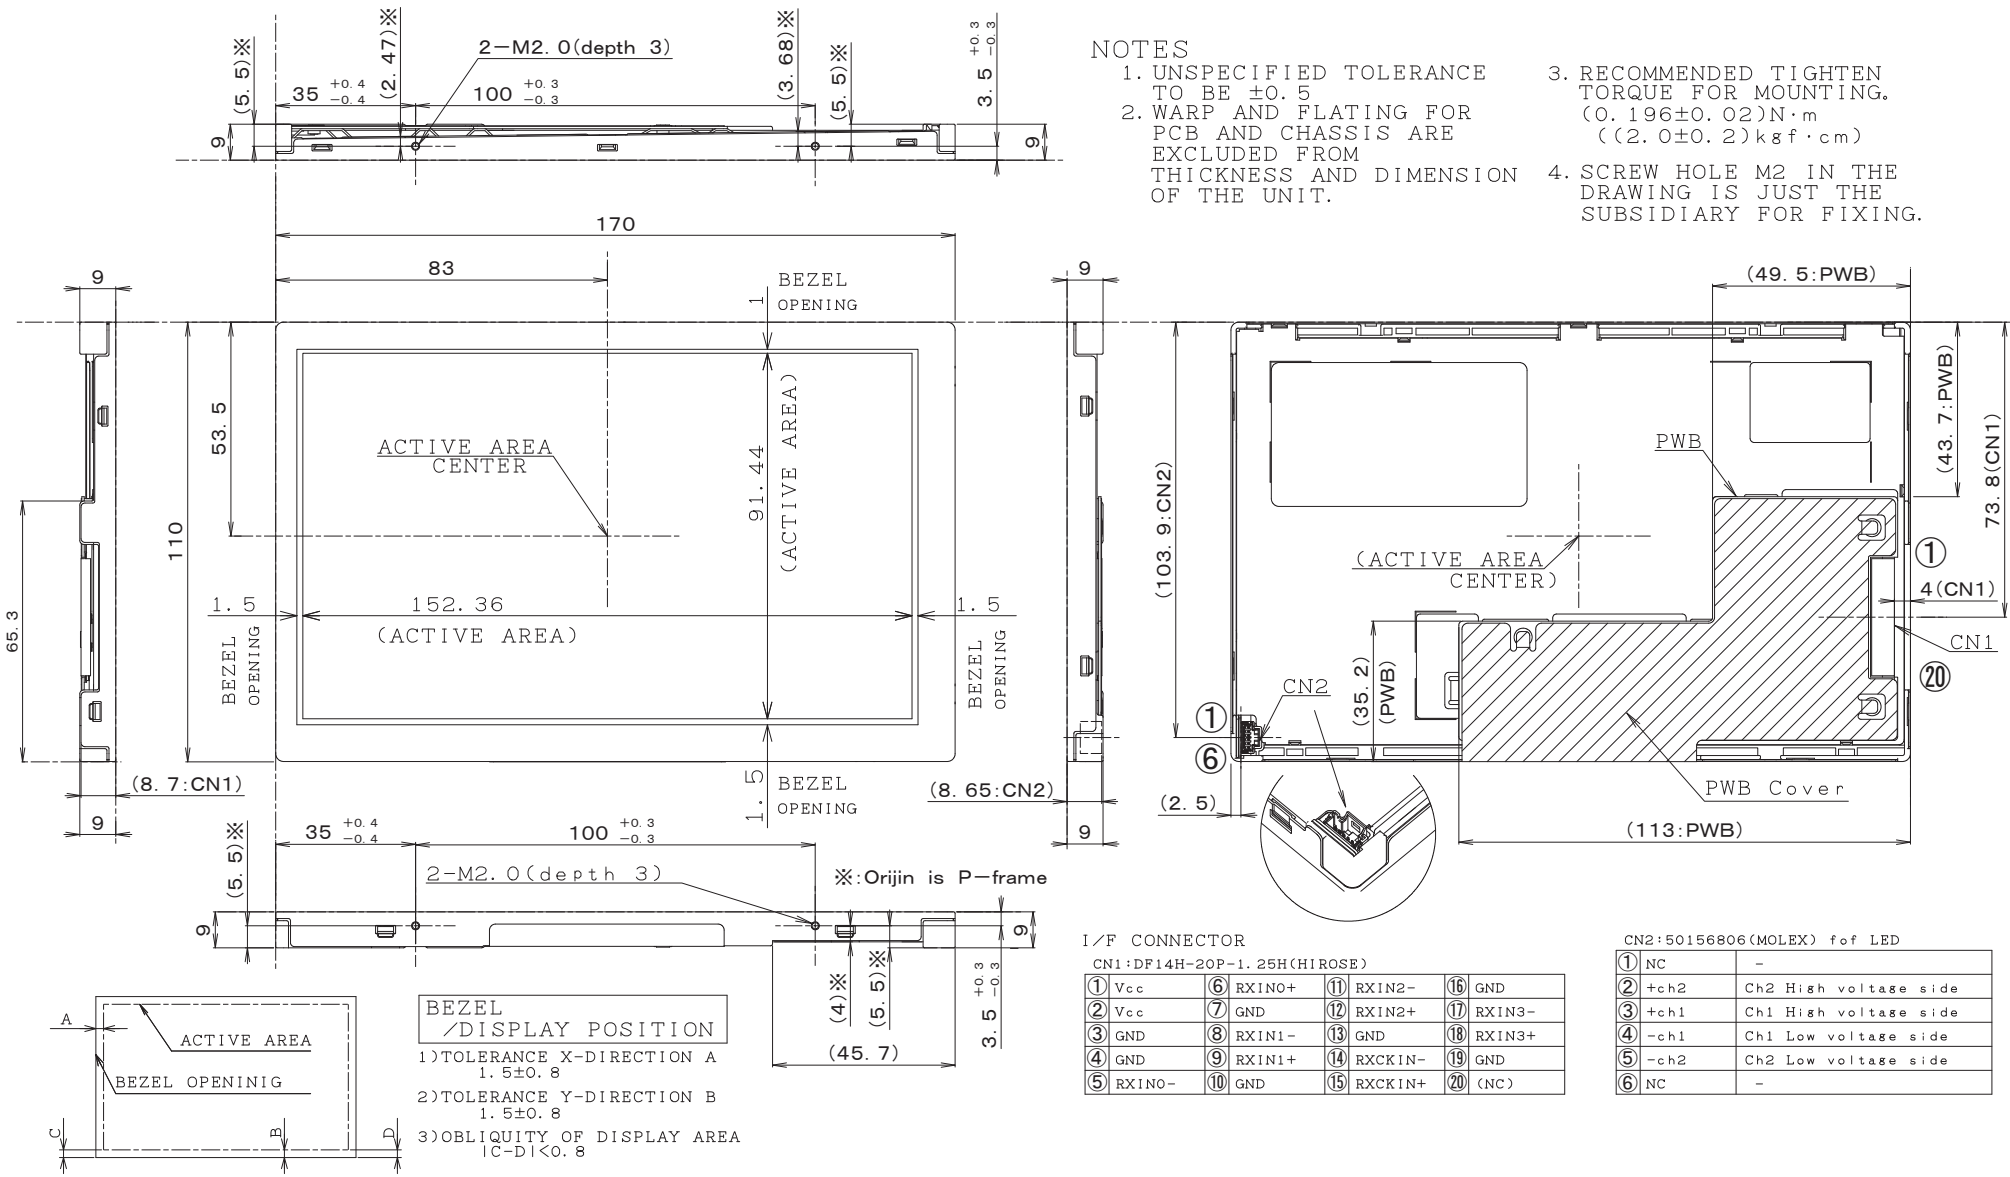

Fig. 1 OUTLINE DIMENSIONS LQ070Y3LW01
- t) Screw hole M2 in the Fig.1 is just the subsidiary for fixing.